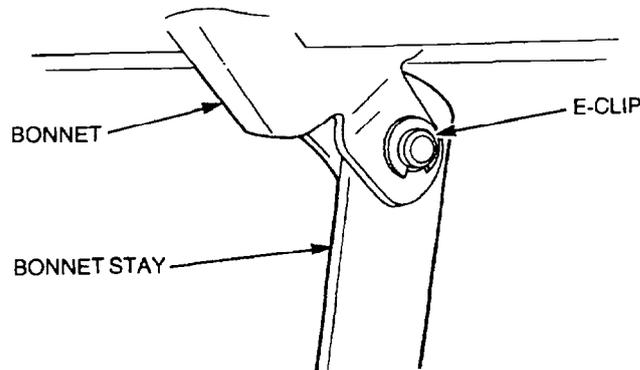

Figure 93 Bonnet Stay Mounting
- b. Open the bonnet and remove the E-clip securing the clevis pin in the bonnet stay (Figure 93).
- b. Position the stay in the bracket and install the clevis pin and E-clip (Figure 93).